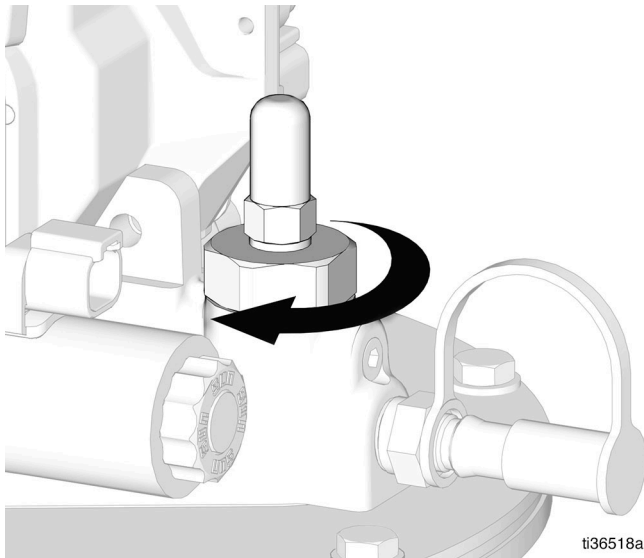

FIG. 7
7. Tighten the Compact Dyna-Star Auto-Fill Shut Off cartridge (torque 45-55 ft-lb/61-74.5 N•m) (FIG. 7).